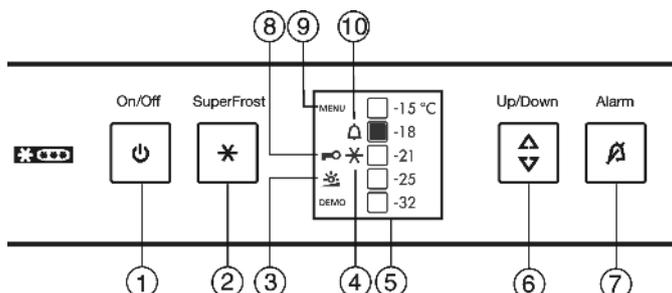

Fig. 3
- The SuperFrost symbol Fig. 3 (4) flashes together with the temperature display.